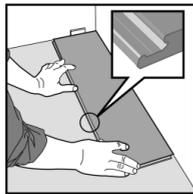
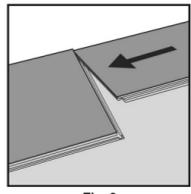
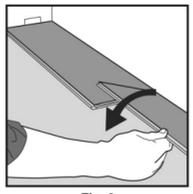
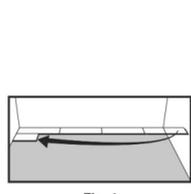

Fig. 1
Fig. 2
Fig. 3
Fig. 4
Begin laying the floor in the left corner of the room. Dry lay a few rows (no glue or nails) before starting installation to confirm your layout decision and working line. Start the first row with the tongue edge facing the wall. Begin installing the first row by laying a board down flat on the subfloor (Fig. 1). Align the end of the second board (Fig. 2) with the first and simply push it straight down on top of first board (Fig. 3). Repeat this step to install the remaining boards in the first row. When cutting the last plank in a row to fit, you can use the cut-off end to begin the next row (Fig. 4). If cut-off end is less than 12", discard it and instead use one of the pre-cut row starter boards in the carton, or cut a new plank at a random length (greater than 12") and use it to start the next row.
**Tapping Block - each flooring board is precision milled. To achieve correct engagement of the click profile, each board should first be snapped into place (Fig 3) then lightly tapped on the long side using tapping block. (Ref. Technical Bulletin #7.13.1)**
Begin laying the floor in the left corner of the room. ALL BOARDS SHOULD BE INSTALLED WITH THE TONGUE SIDE FACING THE WALL. (See figure 1)
Begin installing the first row by laying a board down flat on the subfloor (figure 4). Align the end of the second board with the first and snap end locking system together by simply pushing it straight down on top of first board. Repeat this step to install the remaining boards in the first row. Cut the last board in the row to the necessary length or use an end board that was supplied in the carton. If leftover piece is 12" or longer, use it to begin the next row, or use start board supplied in the carton. (figure 4).